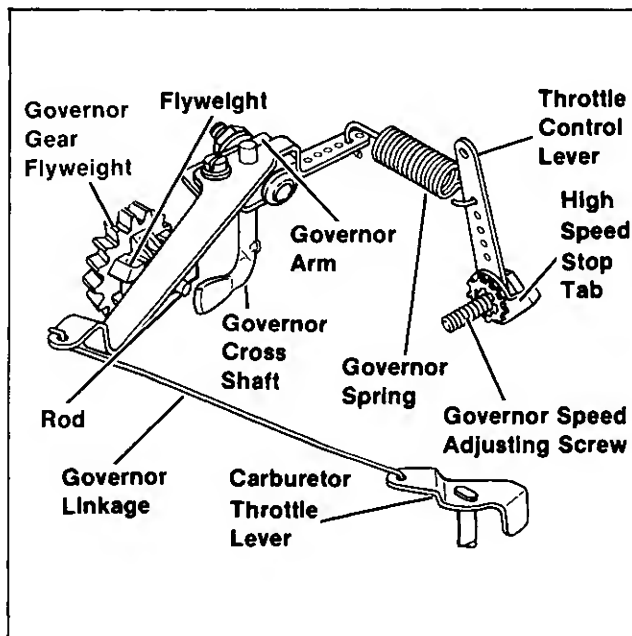

Figure 4-7. Governor Components
9. Connect fuel line, governor linkage and choke linkage to carburetor. (See Figure 4-7.)
When a normal load is applied and engine (and governor) speed decrease, the tension of the governor spring rotates the governor arm to open the throttle valve wider. This admits more fuel and restores engine speed. (With the governor properly adjusted, this action takes place so rapidly, a reduction in speed is hardly noticed.) As speed reaches the governed setting, the tension of the governor spring and the force applied by the governor gear will again be in equilibrium, maintaining speed at a relatively constant level. For identification of the governor components mentioned above, see Figure 4-7.